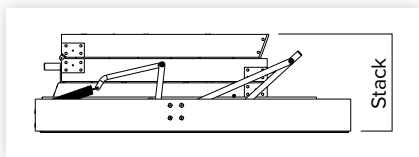

figure 2
- The area for the opening must be clear of wiring, plumbing and structural members such as beams and trusses with a minimum stack height above the ceiling (figure 2).